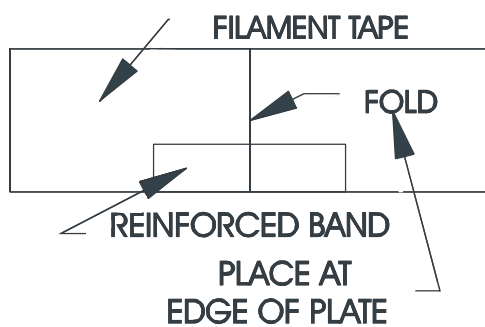

FIGURE 2
4. If necessary to replace paper stop, use reinforced filament tape. See FIGURE 2.